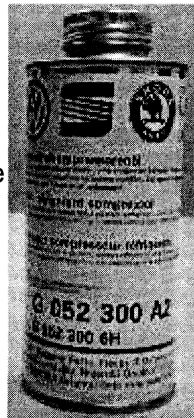

Figure 6. Denso PAG oil.
5. Recharge the refrigerant circuit with the specified volume. Replace the PAG oil completely with new PAG oil at the specified volume. Do not reuse the original oil extracted during the system flush. Use only the Denso PAG oil (part number G 052300A2) (Figure 6). Do not use a substitute.